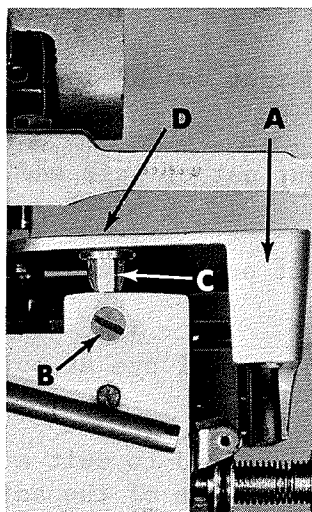

Fig.4
CAUTION! When removing the cloth plate (A, Fig. 4) loosen the cloth plate stud locking screw (B) and lift up cloth plate with the cloth plate stud (C) and cloth plate screw (D) assembled.